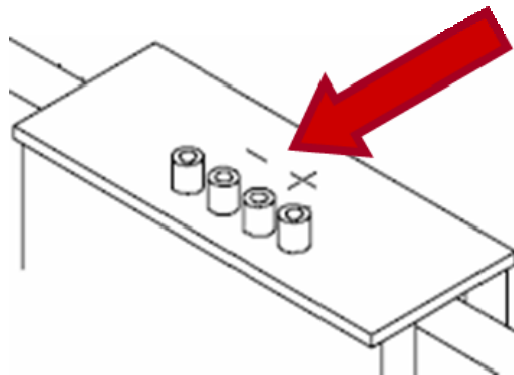

Figure 7: Holes for the Solder Pins
7. With the P75TLRST wire leads soldered on to the solder pins, remove the solder pins from the solder box and install them in the holes at the top of the Deskew Fixture shown in Figure 7. The solder pin with the red band is inserted into the hole with the “+” and the other solder pin is inserted into the hole with the “-”.